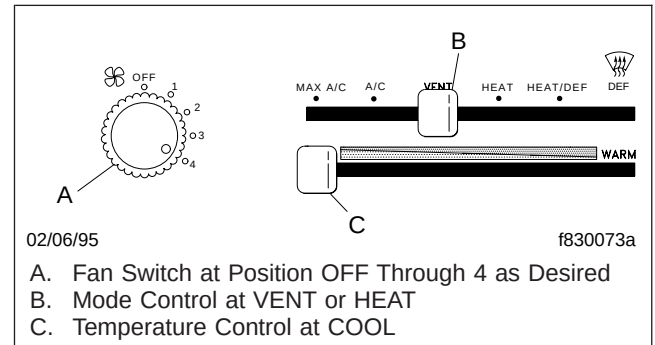

Fig. 4.9, Settings for Maximum Ventilation
- Move the mode control to VENT or HEAT. See Fig. 4.9. In the VENT position, air comes out of the dashboard outlets but not out of the floor outlets. In the HEAT position, air comes out of the floor outlets and the outlets on either end of the